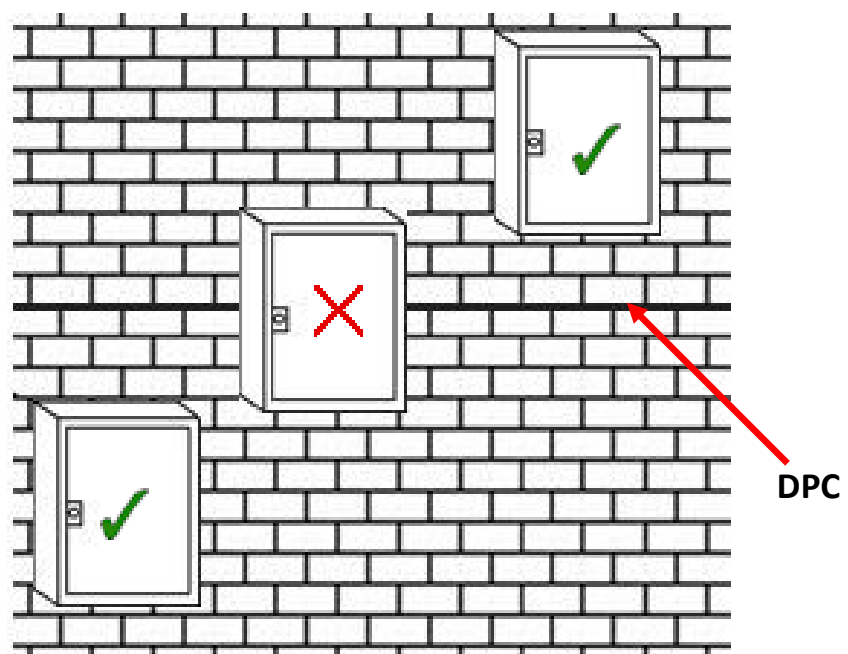

Figure 73 - LP PE surface to mounted meter box positioning
1. The base of the meter box should be installed between 500 mm and 1500 mm above finished ground level and must be fitted either above or below the DPC but must never cross it (Figure 73).